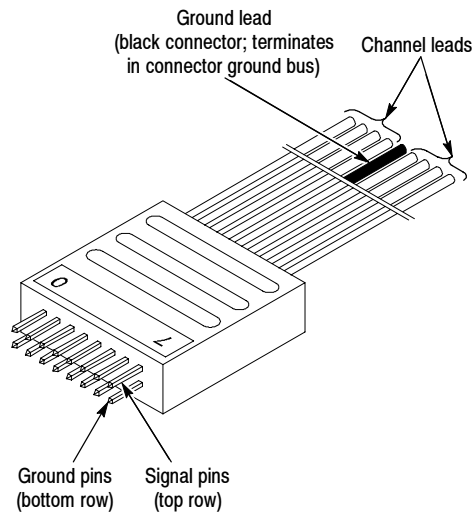

Figure 3: Eight-channel lead set connector
2. Connect the logic analyzer probe lead sets to the accessory lead set connectors. See Figure 3.